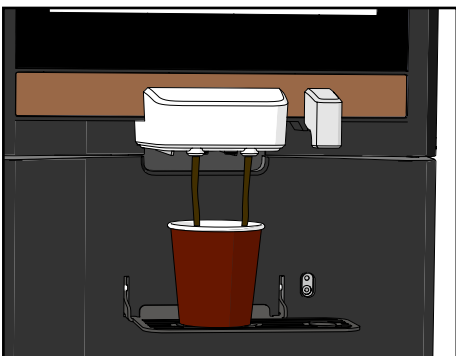

Figure 45.
21. Take a beverage featuring ground beans to test whether you have correctly replaced the espresso brewer. (see Figure 45).